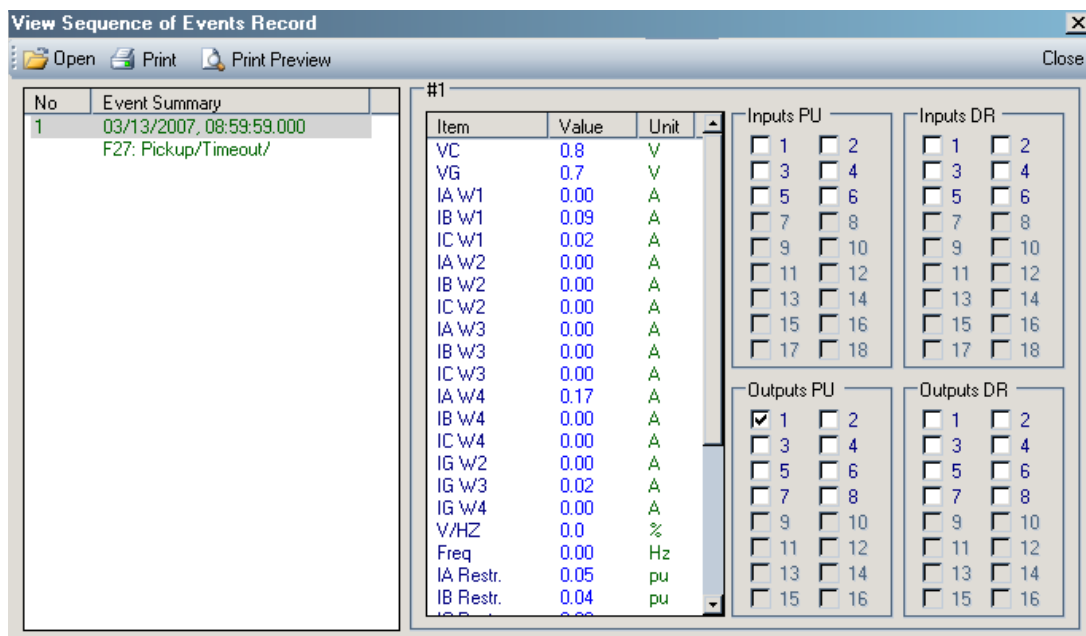

Figure 2-27 View Sequence of Events Record Screen
1. From the IPScom Main Screen menu select **System/Sequence of Events/View**. IPScom will display the View Sequence of Events Record screen (Figure 2-27).
4. Select **Open**. IPScom will **Open** the target file in the View Sequence of Events Record screen (Figure 2-27).